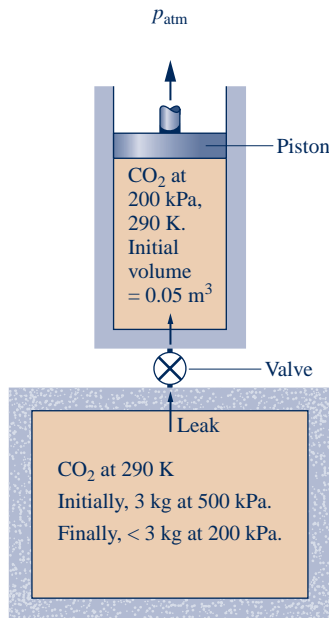

Fig. P3.132
- 3.132** As shown in Fig. P3.132, a rigid tank initially contains 3 kg of carbon dioxide (CO_2) at 500 kPa. The tank is connected by a valve to a piston-cylinder assembly located vertically above, initially containing 0.05 m^3 of CO_2 . Although the valve is closed, a slow leak allows CO_2 to flow into the cylinder from the tank until the tank pressure falls to 200 kPa. The weight of the piston and the pressure of the atmosphere maintain a constant pressure of 200 kPa in the cylinder. Owing to heat transfer, the temperature of the CO_2 throughout the tank and cylinder stays constant at 290 K. Assuming ideal gas behavior, determine for the CO_2 the work and heat transfer, each in kJ.